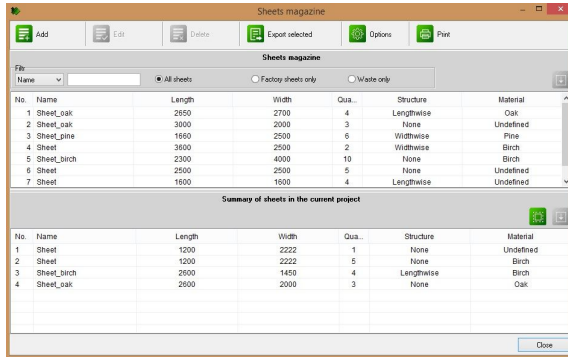

Fig. 44 – sheets magazine window
- 2)  **Sheets magazine [F10]** - opens the window of the magazine of sheets (Fig. 44).